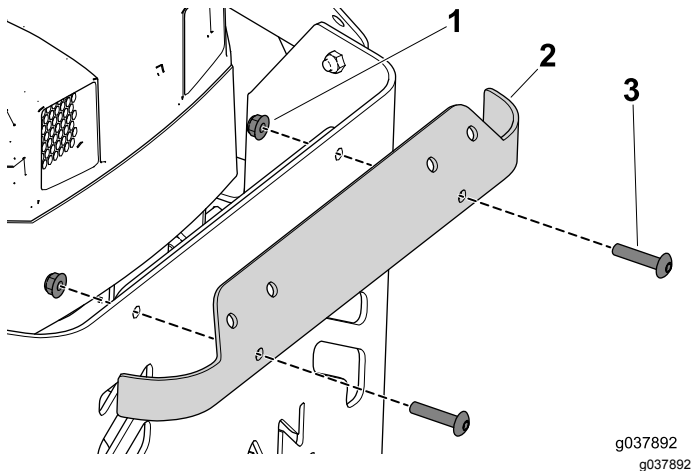

Figure 10
1. Remove the bolts and nuts that secure the upper trim to the machine (Figure 10).